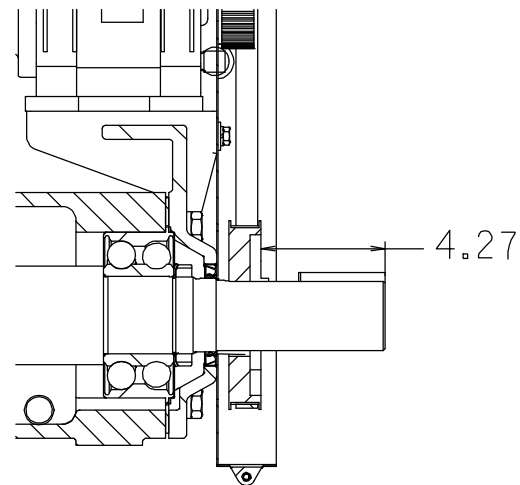

Figure 6. Drive Sprocket Positioning
keyway for the drive key (27, Figure 2). Install the bushing (29) and sprocket (28) on the shaft to the dimension shown in Figure 6.